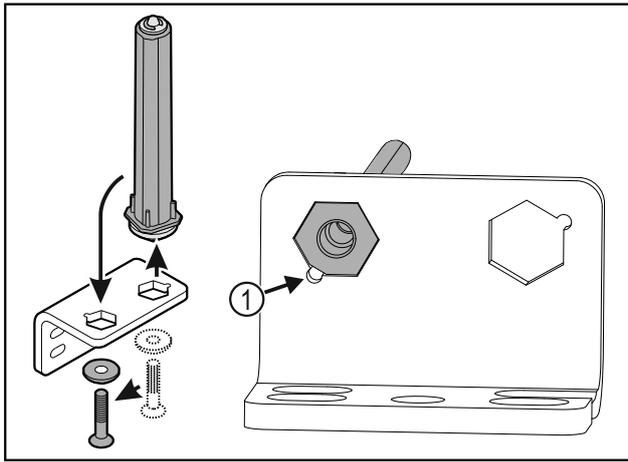

Fig. 25
- ▶ Make sure the pin chamfer Fig. 25 (1) faces the round hole when you put it in.